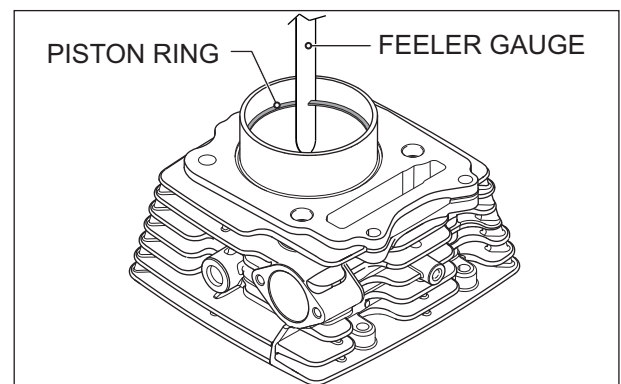

Fig. 3.93
- Install the ring in the cylinder block, using the piston, push the ring into the cylinder block bore at 20 mm from the bottom. This will make the ring to seat squarely in the cylinder block. Using a feeler gauge measure the close end gap. (Fig. 3.93)